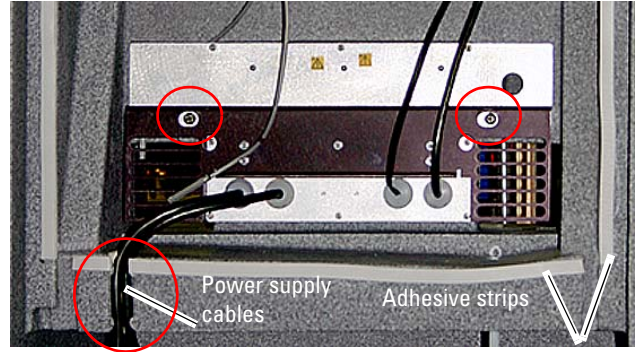

Figure 13: Power supply back plate
18. Inserting the #3 screwdriver through the holes in the heater plate, remove the two Phillips screws from the power supply back plate and remove the power supply (Figure 13).